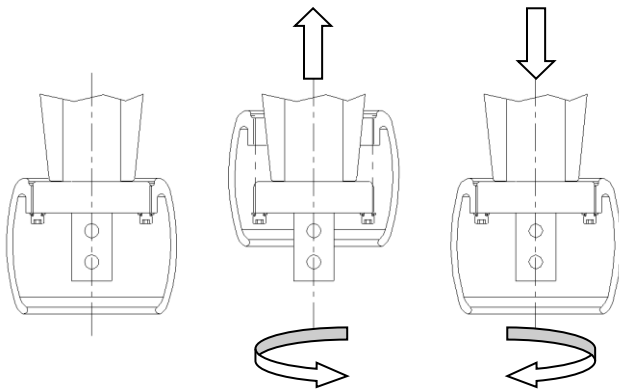

Fig. 8
- Deflector removable upwards: it can be unscrewed upwards (fig. 8).